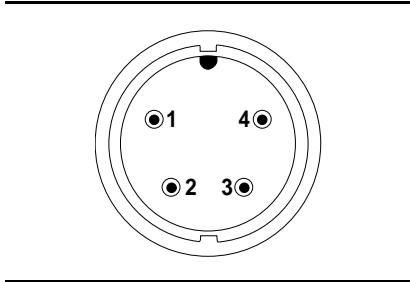

Figure A-5. RF Detector Cable Connector Pin Orientation
- Step 6** Connect the DMM leads between pins 1 and 2 of the RF detector cable connector (Figure A-5). Measure the resistance value, which is the maximum resistance of R1 (approximately 40.5 kΩ is typical). Record this value; it will hereafter be referred to as “R_T”.